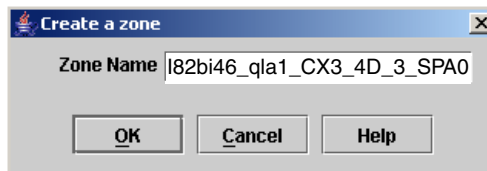

Figure 8-22 Create a zone window
13. In the left panel, right-click **ZoneSet: Linux_text** and select **Create a Zone....** You will then see a window similar to Figure 8-22.